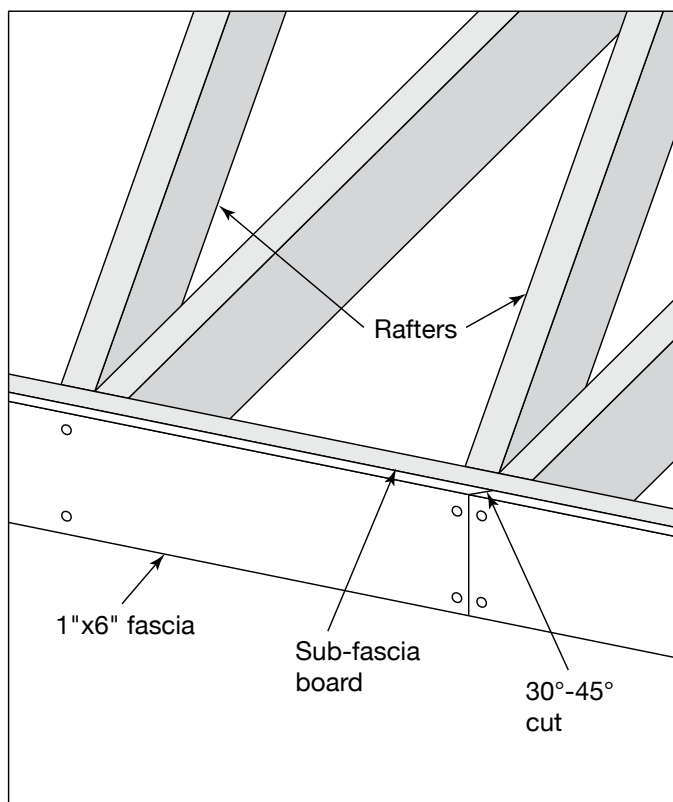

Fig. 8
- Nail the trim pieces in place within 2" of the edge of the trim piece using approved fasteners (**Fig. 8**).
- On long trim runs, use butt joints cut at 30- to 45-degree angles (**Fig. 8**).
Note: *TruExterior Trim may be installed directly over bricks or other masonry exteriors. When using TruExterior as fascia, a sub-fascia is required (**Fig. 8**).*